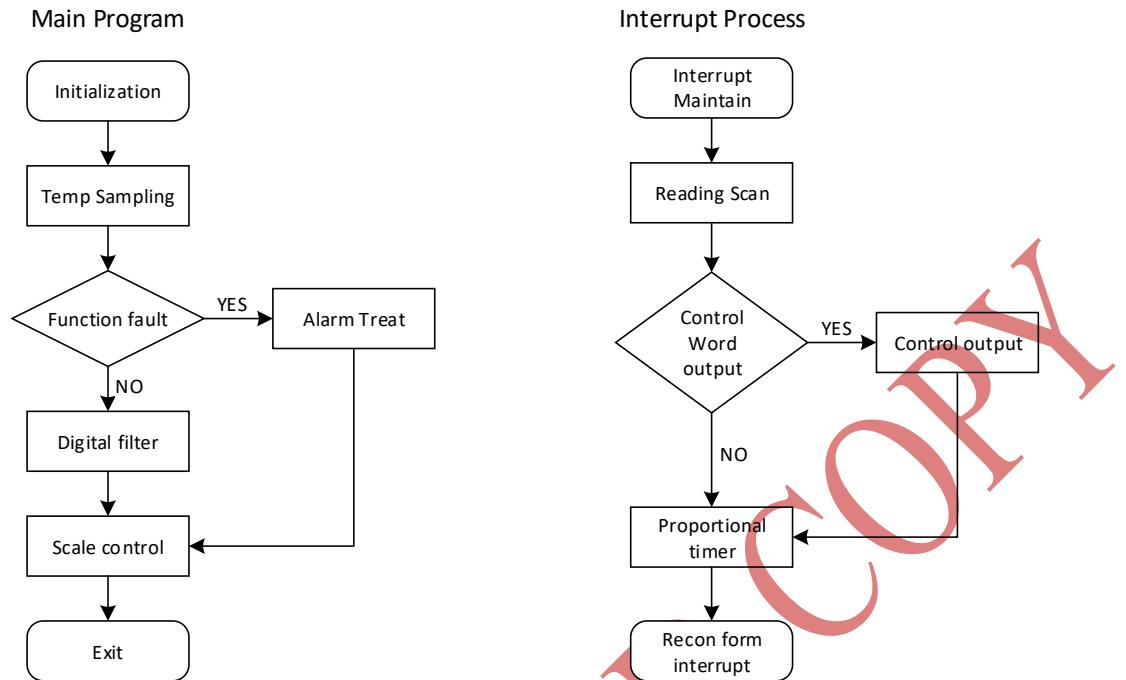

Fig.5-2 Procedure block diagram
5.3 Temperature control, show principle (see fig. 5-2)